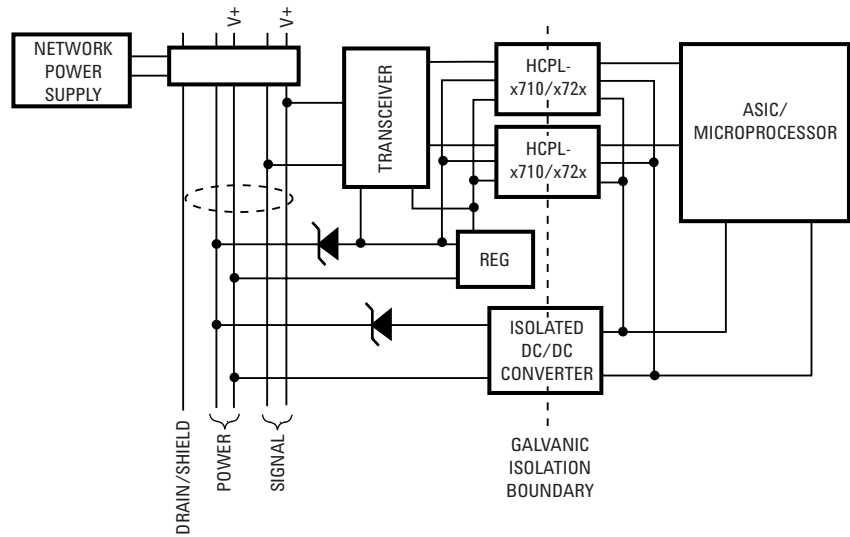

Figure 3. Isolation Node Powered by the Network
1. Isolation Node Powered by the Network (Figure 3);
If the network power can supply the devices sufficiently, then it is not necessary to power field devices from the AC line. As seen in Figure 3, a non-isolated voltage regulator supplies the transceiver and half of two optocouplers, while an isolated DC/DC converter supplies the controller and the other side of two optocouplers.